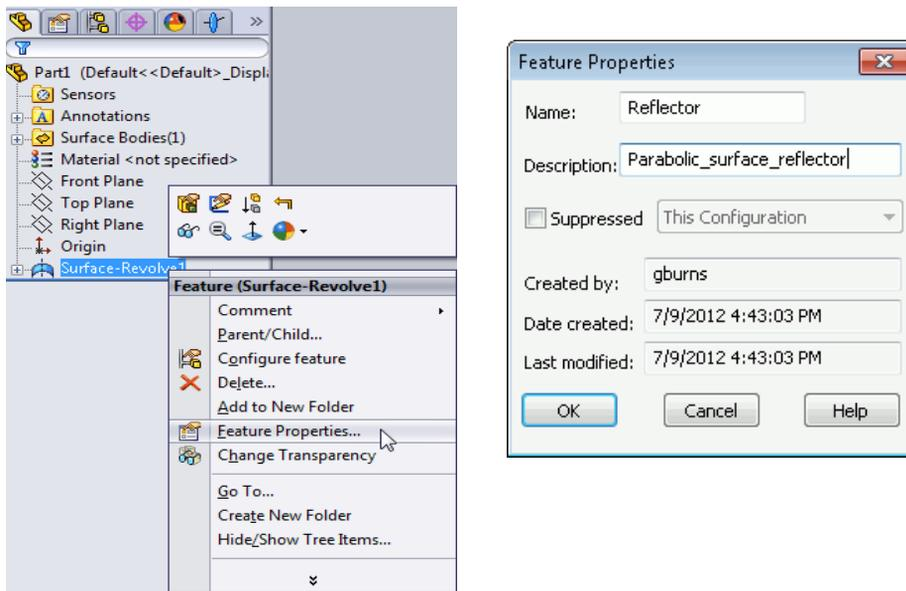

Figure 33 FeatureManager tree (left) for the part, and feature properties of the part (right)
- 6 Right-click the Surface-Revolve node on the FeatureManager design tree. Click **Feature Properties** on the shortcut menu. See Figure 33 (left).
- 7 Change **Name** and **Description** on the Feature Properties dialog box to describe the actual component, and click **OK**. See Figure 33 (right).